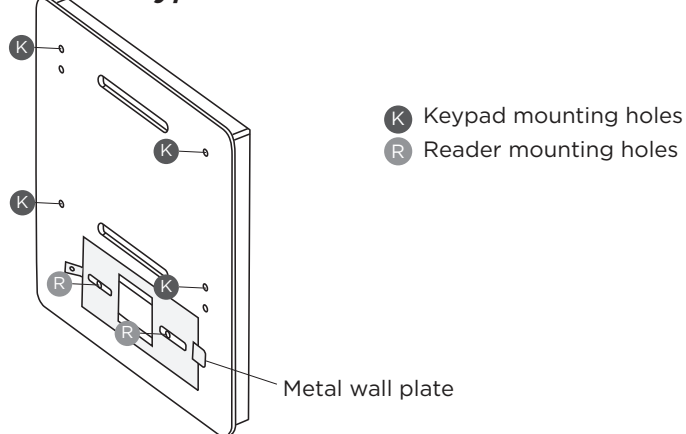

Figure 6: Keypad and Reader Mounting Holes
3. Secure the keypad base to the mounting plate using the screws provided with the keypad. Refer to Figure 6.
1. Secure the reader metal wall plate to the mounting plate using the screws provided with the reader. Refer to Figure 6.